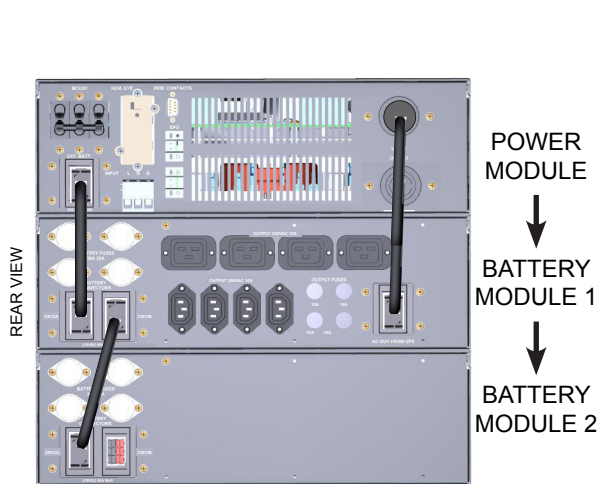
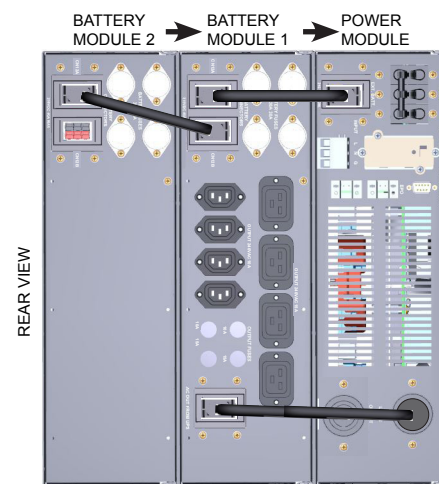
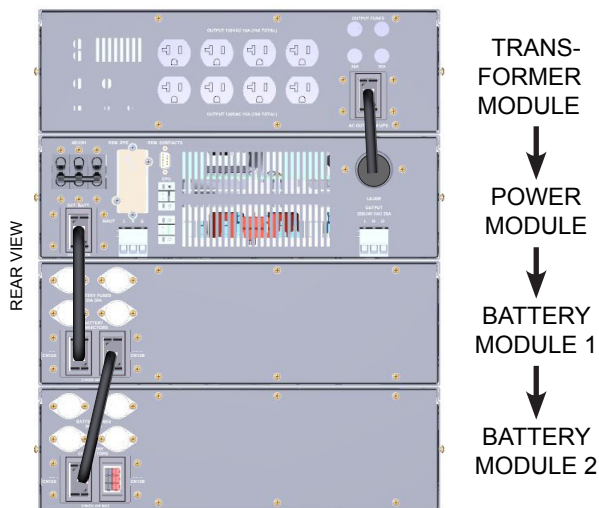
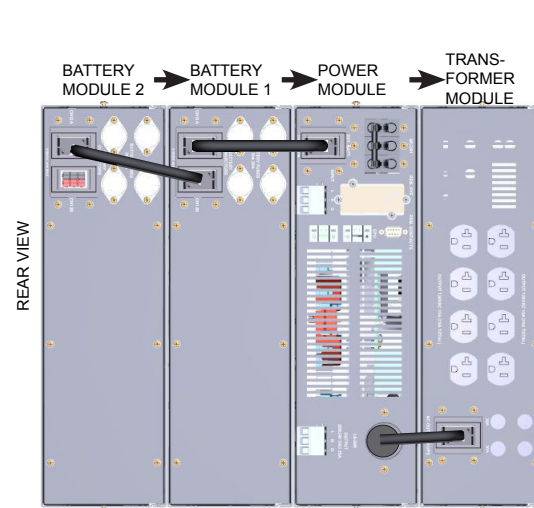

FIGURE 6-1: RACKMOUNT 240V_{OUT} SYSTEM WITH C-13/C-19 PANEL
FIGURE 6-3: TOWER 240V_{OUT} SYSTEM WITH C-13/C-19 PANEL
FIGURE 6-2: RACKMOUNT 120V_{OUT} SYSTEM WITH TRANSFORMER MODULE
FIGURE 6-4: TOWER 120V_{OUT} SYSTEM WITH TRANSFORMER MODULE
Module arrangement is determined by the length of the factory-supplied inter-module cables. The Modules should be arranged in the following order as viewed from the front: top-to-bottom for Rackmount (Fig. 6-1, Fig. 6-2); left-to-right for Tower (Fig. 6-3, Fig. 6-4).
2. Facing the front of the modules, arrange them left to right in the following order (See Fig. 6-1 - 6-4):